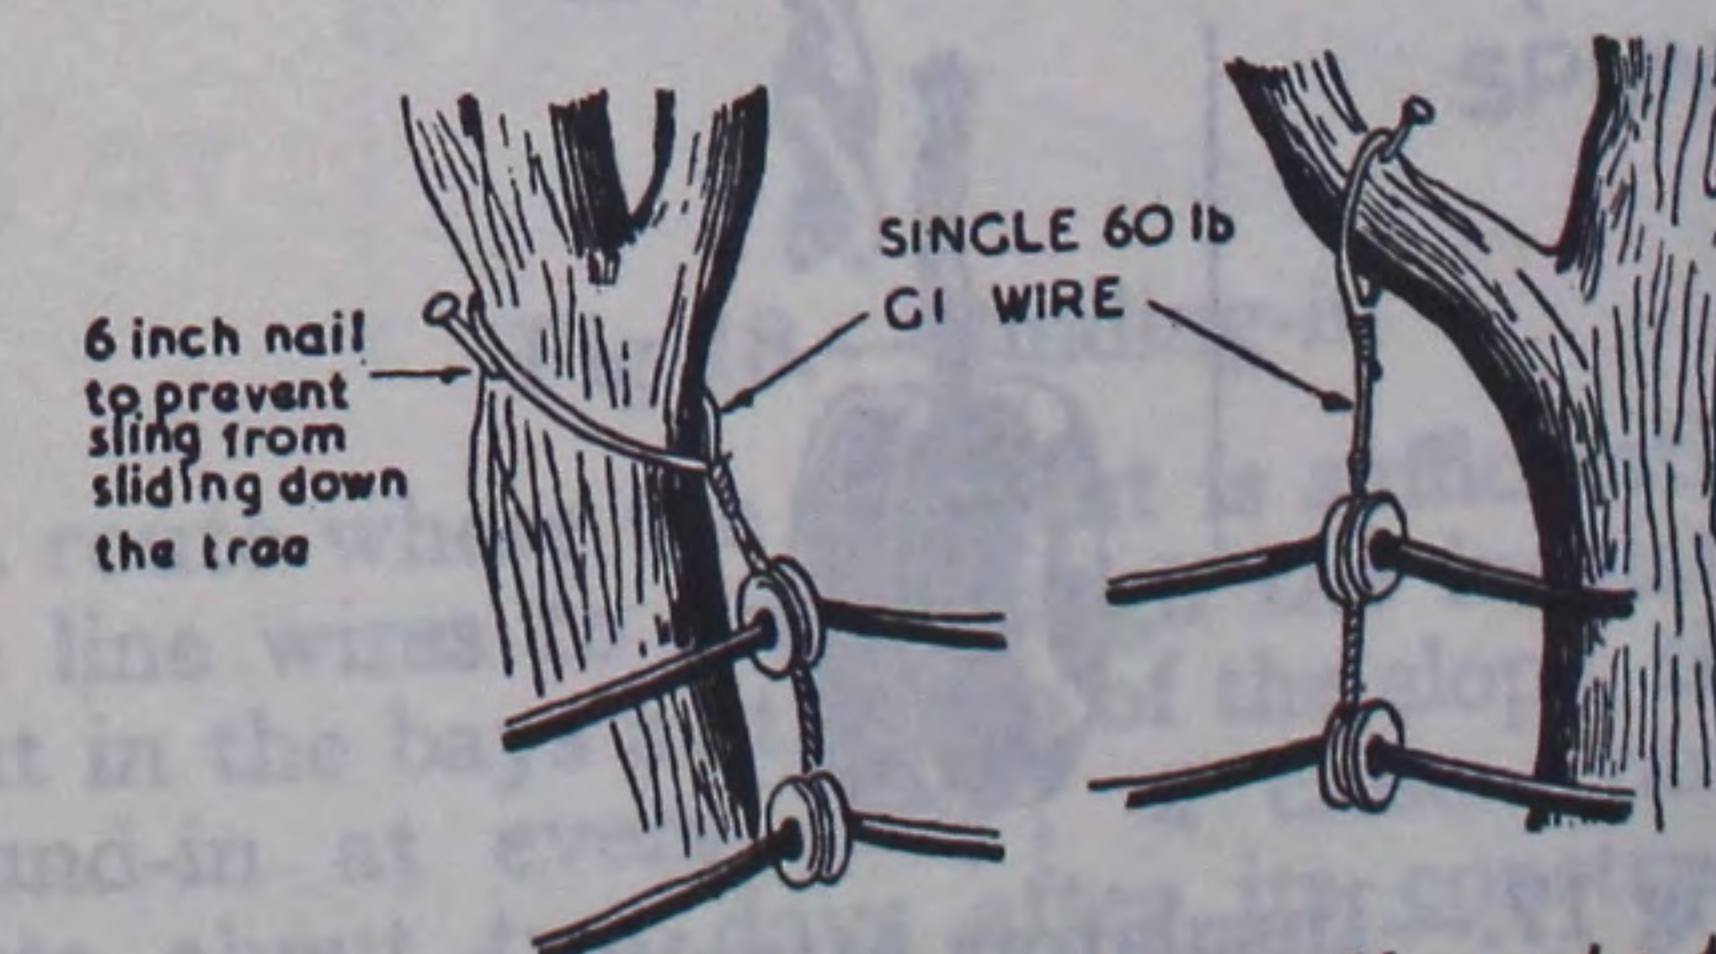

Fig 15.—Method of attaching slings to trees
- (c) The sling should be bound loosely round the trunk or limb of a tree (see Fig 15).